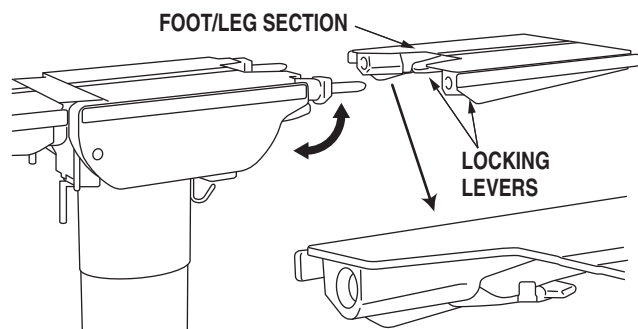

Figure 2-22. Leg Section Removal
a. The Leg Section and the Back Section on the 6702 tables are both removable. See figure 2-22 (Leg Section shown).